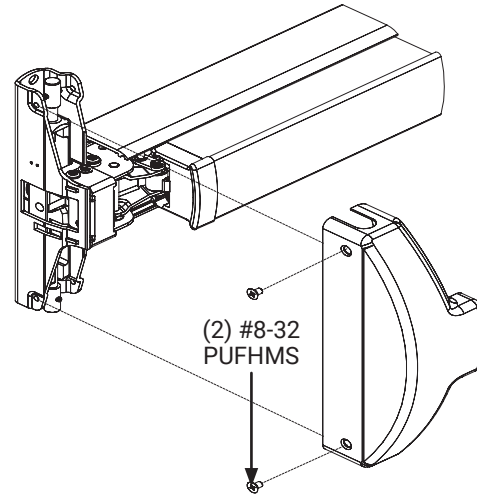

Figure 28
1. Secure device assembly cover with two (2) #8-32 x 5/16" (7.94mm) PFHUMS. Fully tighten screws (Figure 28).